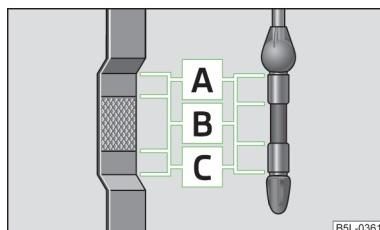

Fig. 128
-  Do not drive on if the oil level is above range [\[A\] » Fig. 128](#) on page 143. Switch off the engine and seek assistance from a specialist garage.
The dipstick indicates the engine oil level » Fig. 128.
- The oil level must never be above the **A** range » Fig. 128 – there is a risk of damaging the exhaust system.